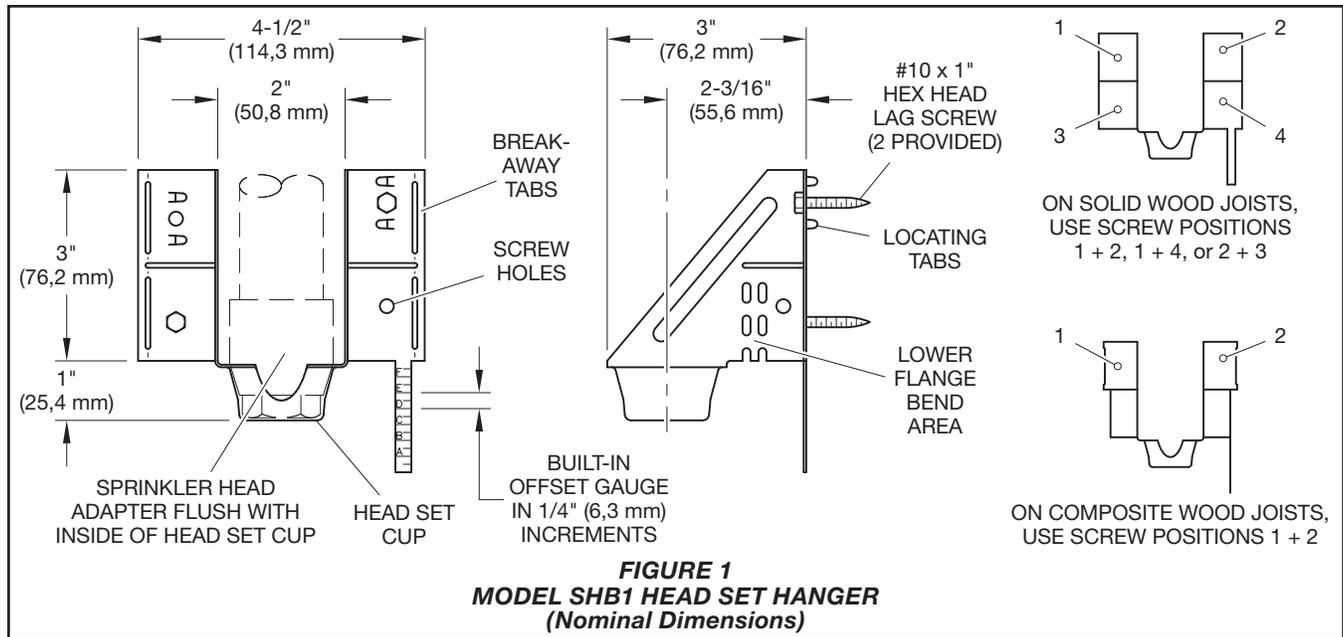

FIGURE 1
Step 3. Secure Head Set Hanger to wood surface using two #10 x 1 in. hex head lag screws provided. (Ref. Figure 1).
Step 5. Secure Head Set Hanger to wood surface using two #10 x 1 in. hex head lag screws provided (Ref. Figure 1).